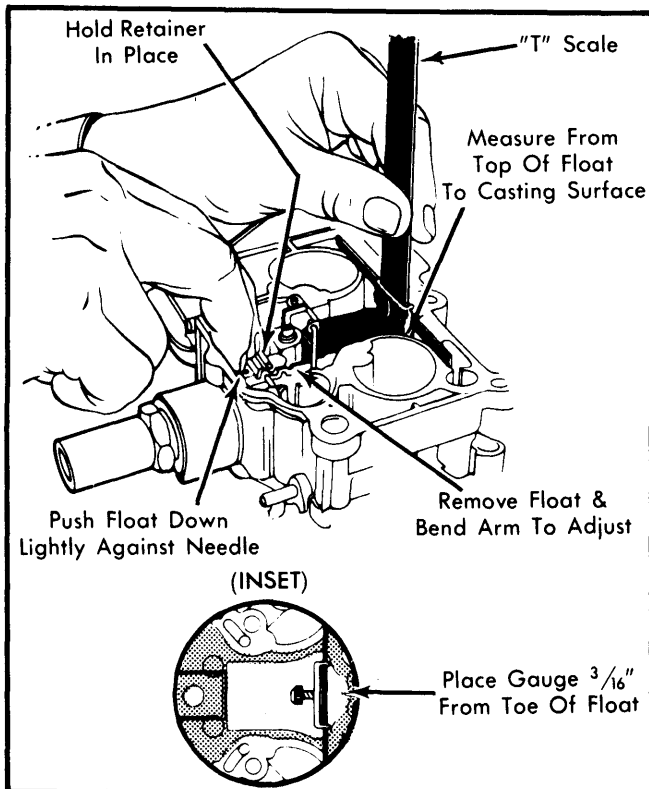

Fig. 3 Adjusting Float Level
1) Remove air horn and gasket from float bowl. Hold float retainer down firmly. See Fig. 3.